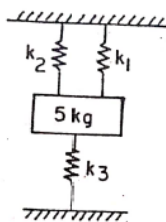

Fig.1
3. Find the natural frequency of the system shown in fig 1, take $k_1=k_2=1500\text{N/m}$ & $k_3=2000\text{N/m}$